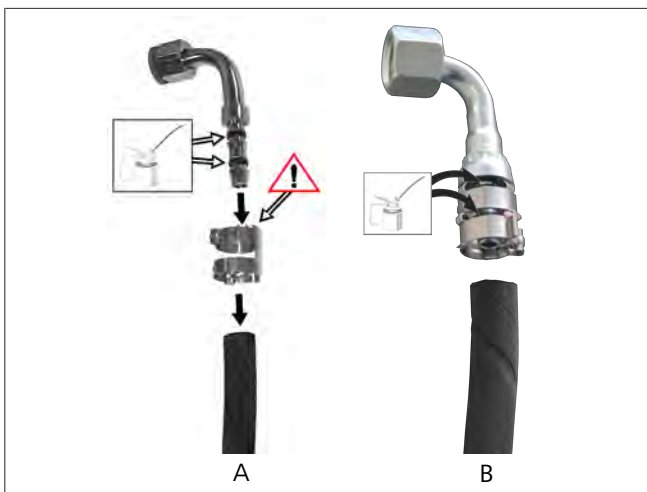

Fig. 22 Lubricate fittings
- Fitting with separate clamps: see Fig. 22, part A.
- Fitting with a fixed clamp: see Fig. 22, part B.